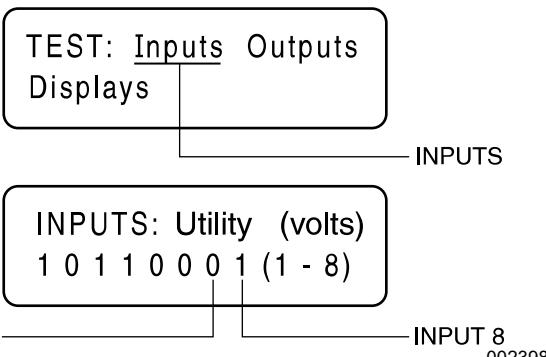

Figure 3-41. The Input Screens
1. See **Figure 3-41**. Navigate to the Input Screen using the menu system for the controller being worked on.